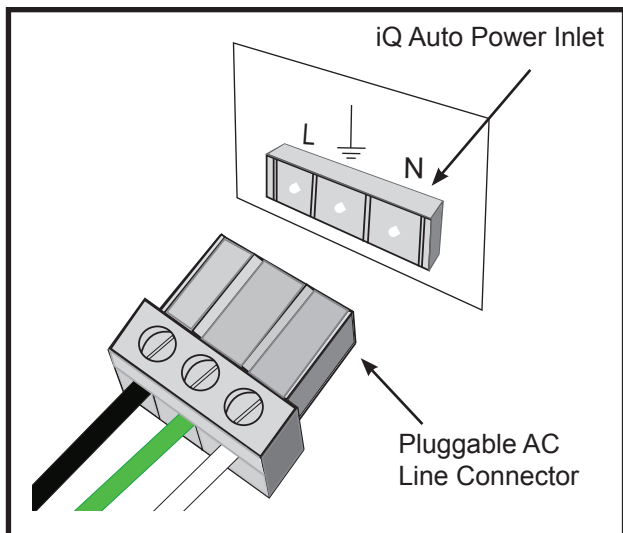
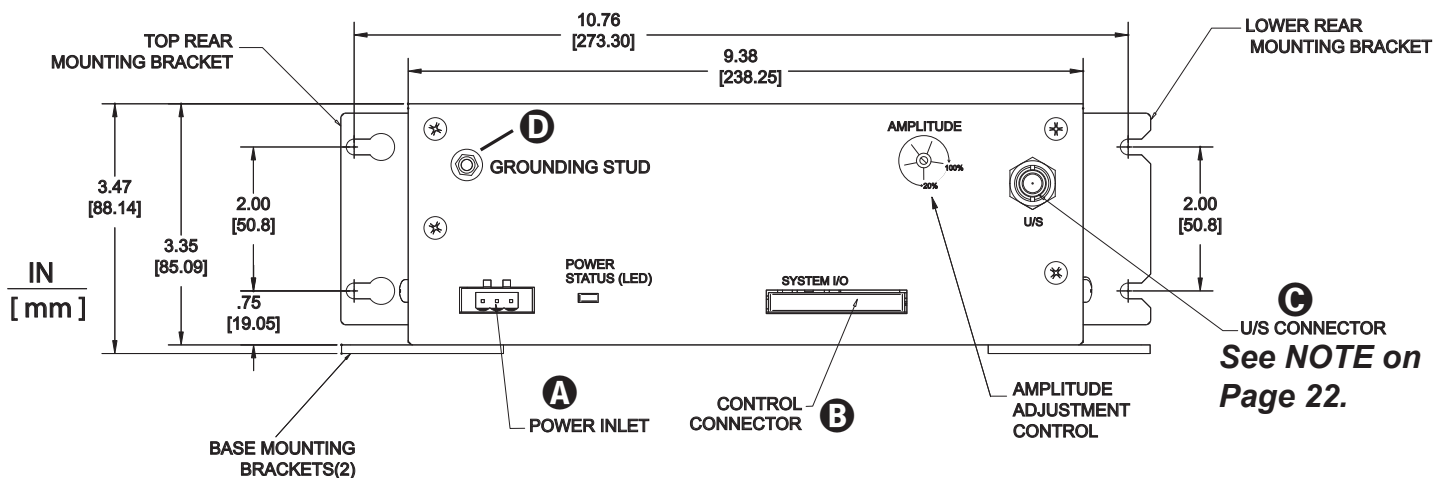

Figure 2-1 AC Line Connection
Figure 3-1 Generator Front View - Standard Model
Figure 2-1 illustrates how the AC line is connected.
Additionally, the included grounding wire must be connected from the grounding stud connection (see Figure 3-1) to the nearest grounded metal pipe or equivalent earth ground.
The chassis grounding stud is used to attach a protective earth ground to the generator. This helps suppress electrical interference or radio frequency interference (RFI) that is common in an industrial environment. Stud location is shown in Figure 3-1 on the following page.
- Step 1. Wire the AC line connector, and attach it to the generator's power inlet connector, matching the power source line, ground, and neutral with the generator's line, ground, and neutral connector pins - **A** in Figure 3-1. (See Figure 2-1 also.)
- Step 2. Wire the user-supplied automation system control inputs/status outputs to the CONTROL CONNECTOR, and attach it to the system I/O port - **B** in Figure 3-1.
- Step 3. Attach a high-voltage coaxial ultrasound cable (from the ultrasonic probe) to J1, the ultrasound output connector - **C** in Figure 3-1.
- Step 4. Connect the included ground wire from the grounding stud, **D** in Figure 3-1, to earth ground.